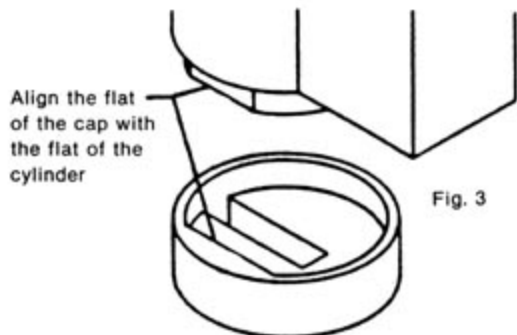

Fig. 3
1. Place the key cap over the end of the cylinder. Align the flat of the key cap to the flat of the cylinder. (See Fig.3)